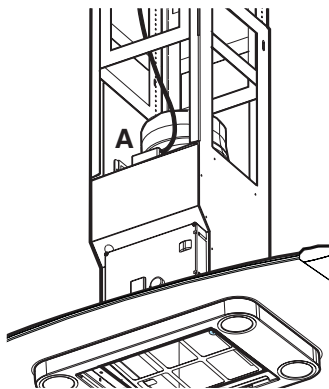

Fig. 1
- In this mode fumes are extracted to the outside via a **hose** connected to the **coupling ring A**. **Fig. 1**.